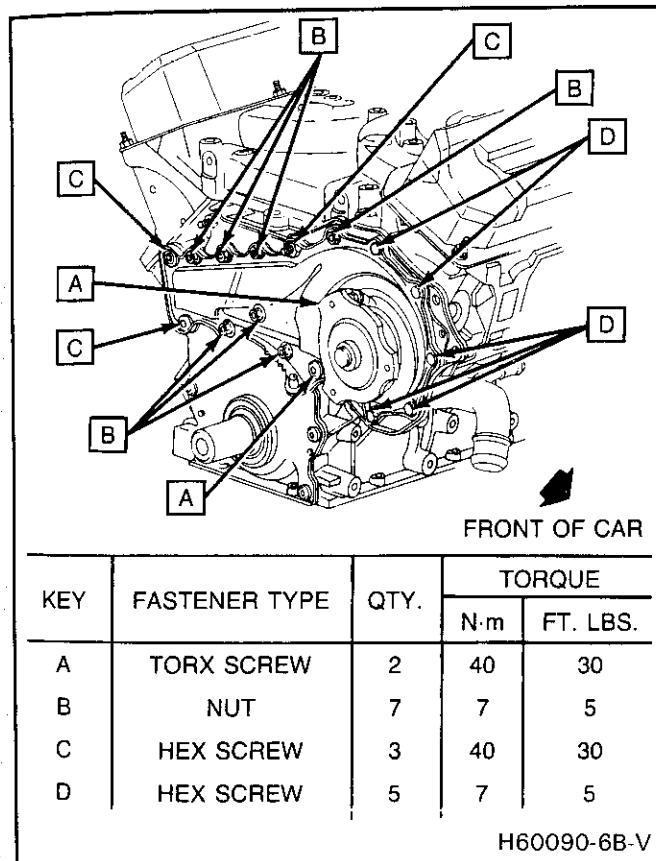

Figure 16 - Water Pump Fasteners
- All pump mounting bolts to the torque specifications in Figure 16.